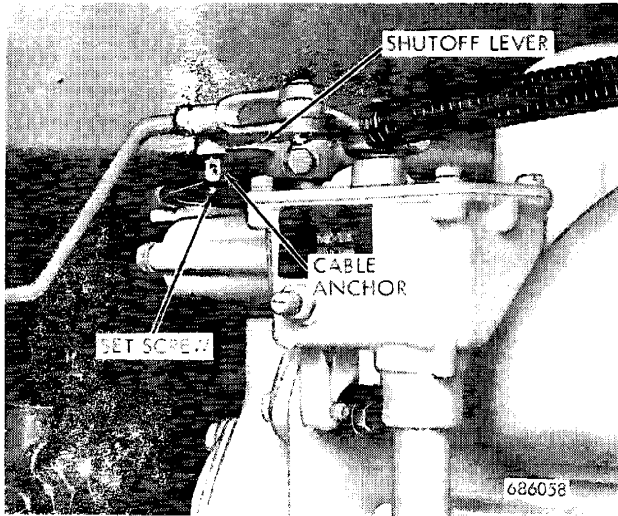

Figure 8
Refer to Figure 8.
3. Loosen the set screw on the cable anchor and remove cable clamp, Figure 8. Retract the entire cable and lever mechanism through the instrument panel.
1. Loosen the set screw on the cable anchor, Figure 8, allowing the wire